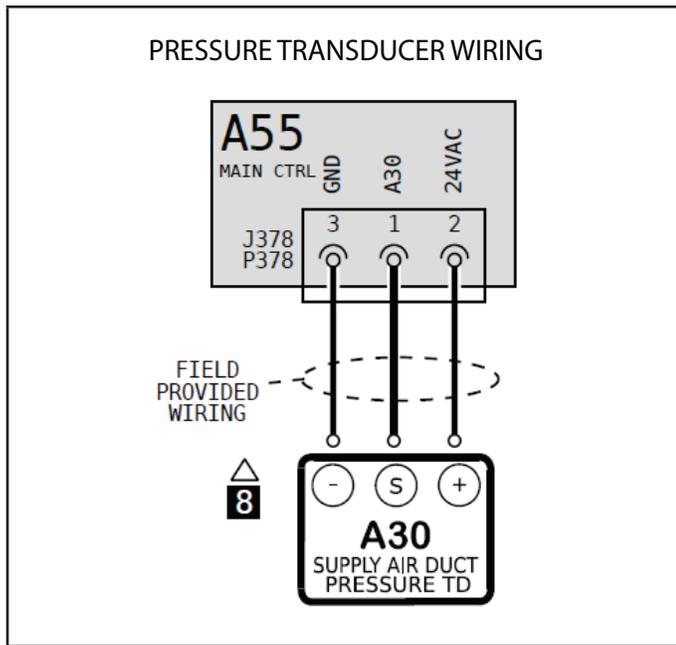

FIGURE 38
- 2 - Two twisted pairs of shielded cable must be used to connect the pressure transducer. See FIGURE 38.